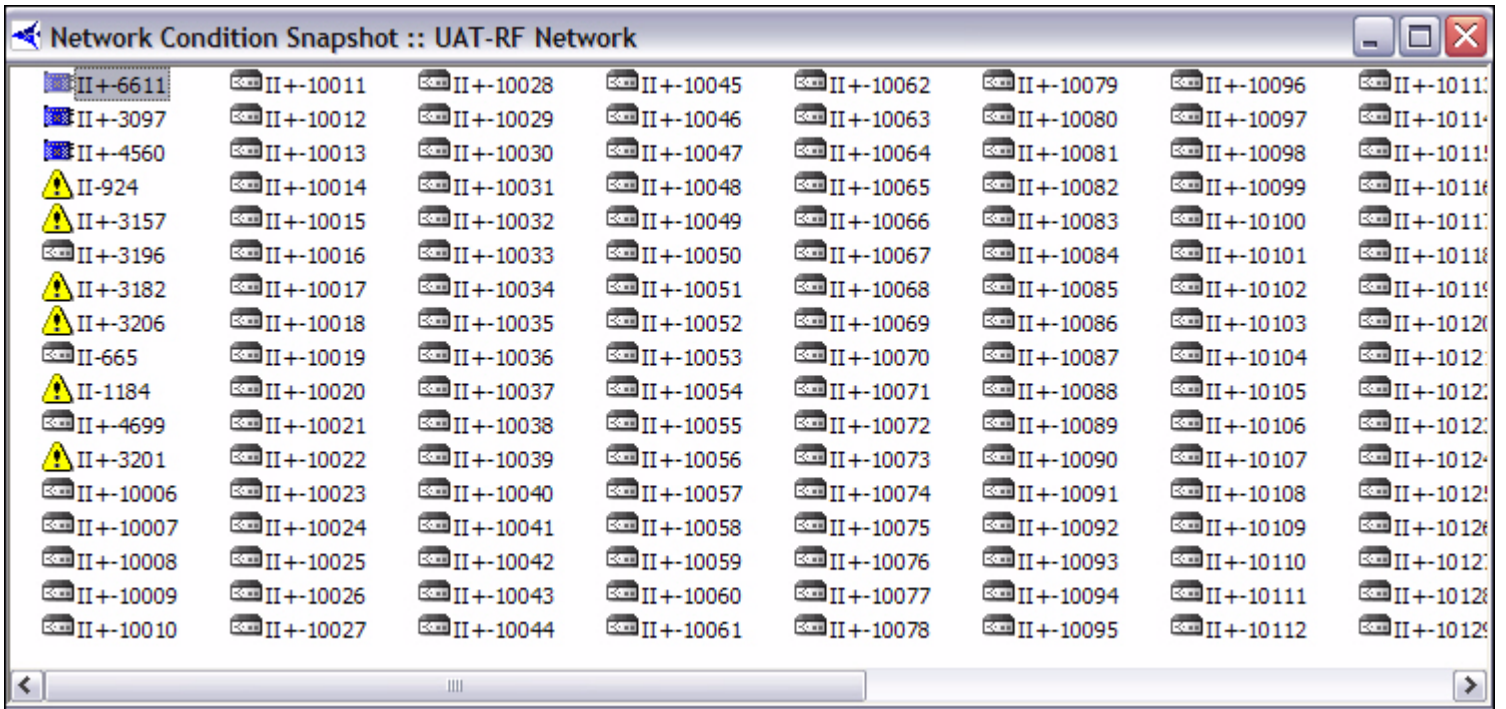

Figure 3-6: List View of Network Condition Snapshot
Step 5 You can click on any of these options to create a specific view. Figure 3-6 above is an example of right-clicking **List** in the submenu (see Figure 3-7). The example below is a result of right-clicking **Details**.